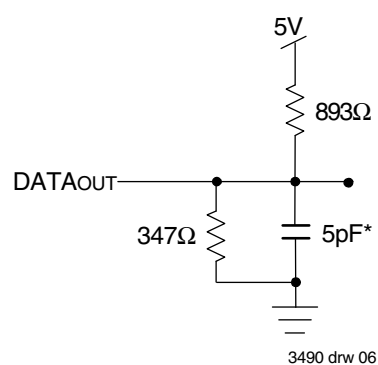

Figure 2. Output Test Load
1. Transition is measured 0mV from Low or High impedance voltage with the Output Test Load (Figure 2).
1. Transition is measured $\pm 200\text{mV}$ from Low or High-impedance voltage with the Output Test Load (Figure 2).